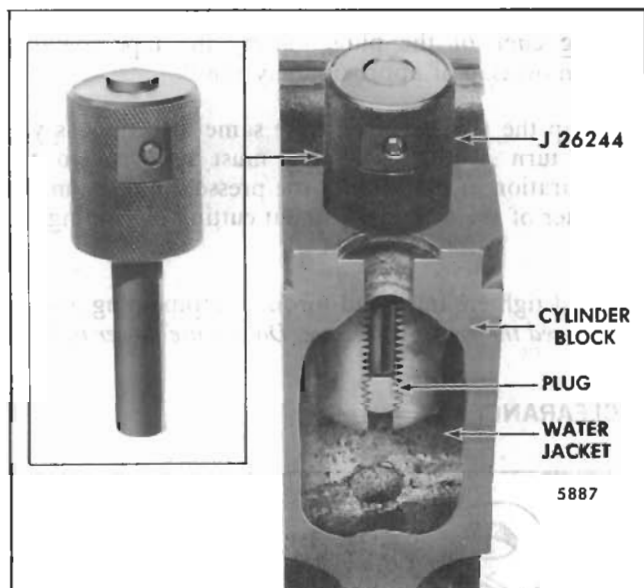

Fig. 2 - Checking Depth of Plug
3. Place depth gage J 26244 (Fig. 2) in the cylinder head bolt hole and loosen the set screw. If the depth gage is flush with or below the knurled gage holder, the plug is installed and sealed at the proper depth.